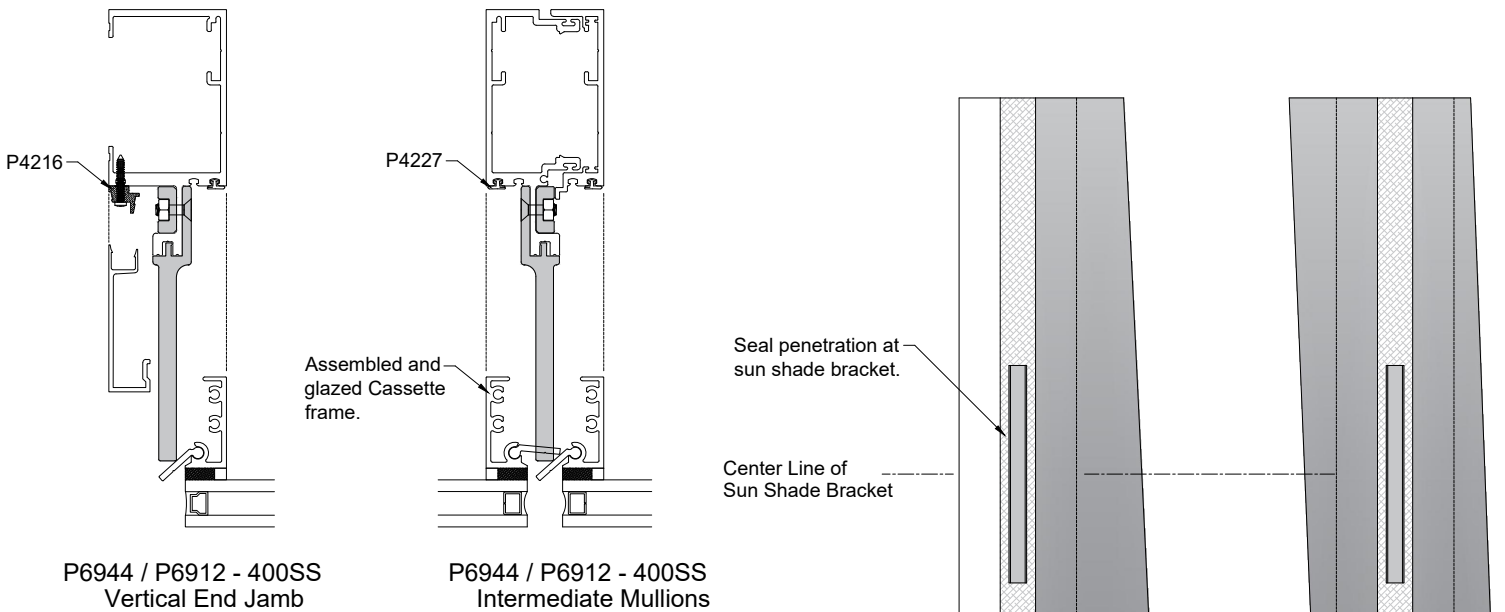

FIG. 17.1
- 3) Verify perimeter trim closure receiver P4216 and backer gasket P4227 have been installed. Fig. 17.1.